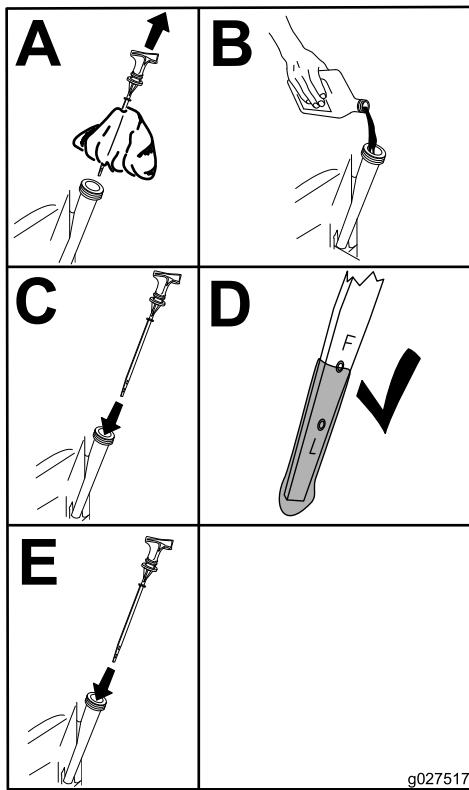

Figure 34
5. Slowly pour approximately 80% of the specified oil into the filler tube (Figure 34).